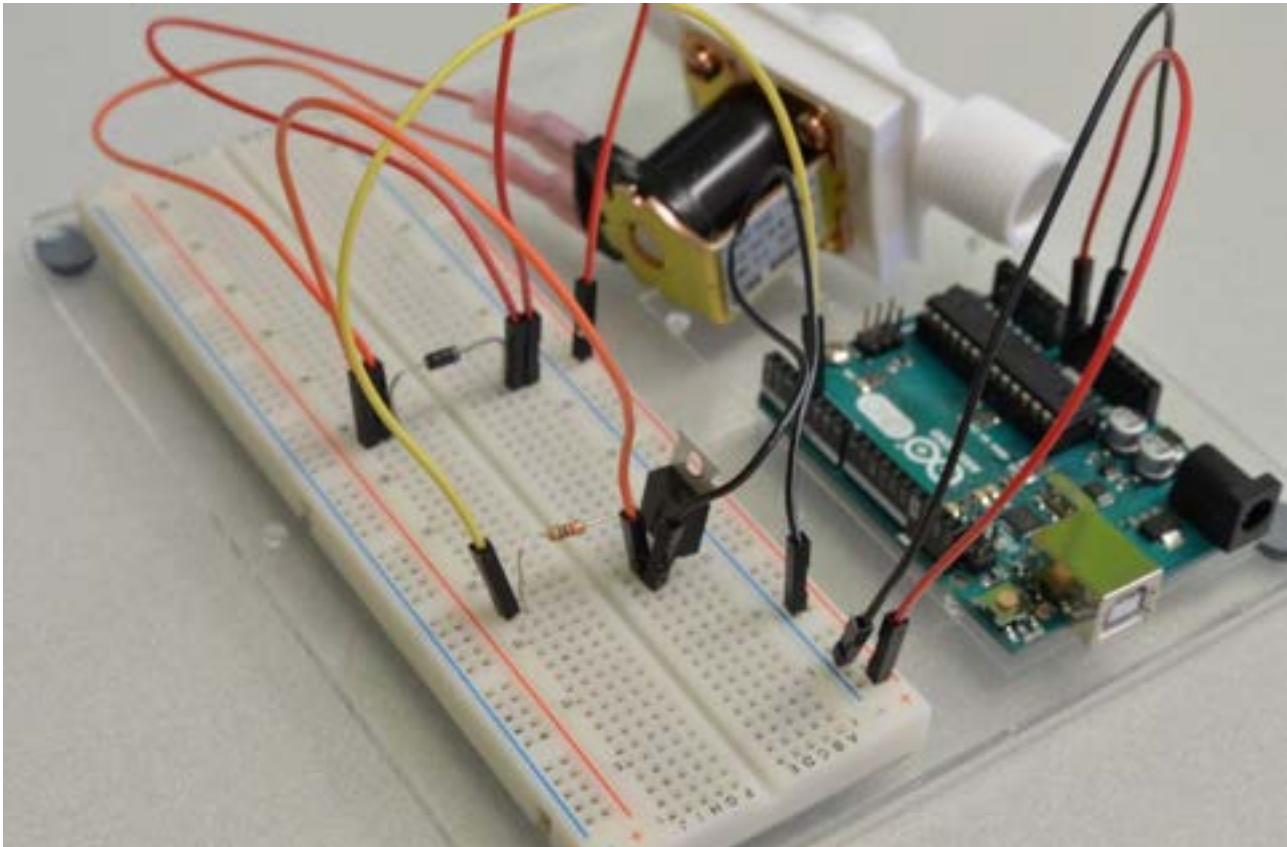

Figure 4: Final Solenoid Valve Arduino Setup
- Place the transistor and the base resistor as shown in figure 4